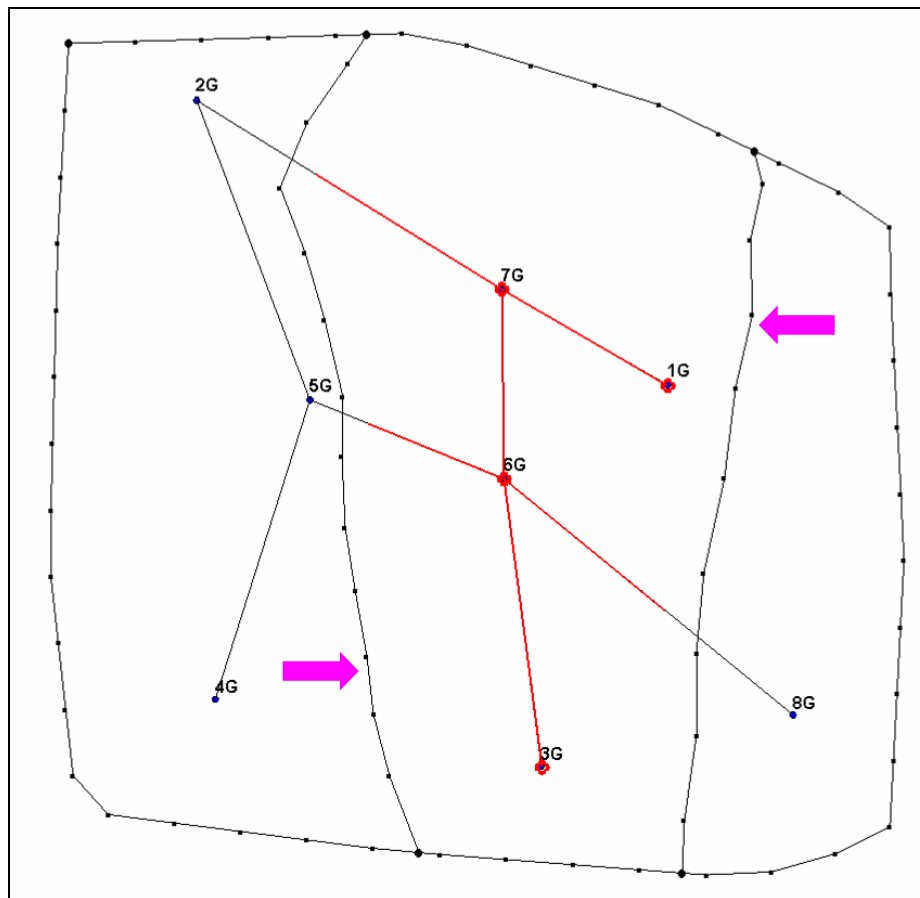

Figure 5.2. Arcs created in the horizon 4 coverage (identified by the arrows).
8. Create 2 arcs similar to those identified by the arrows shown in Figure 5.2. Notice that the arcs surround the red highlighting on the cross sections.